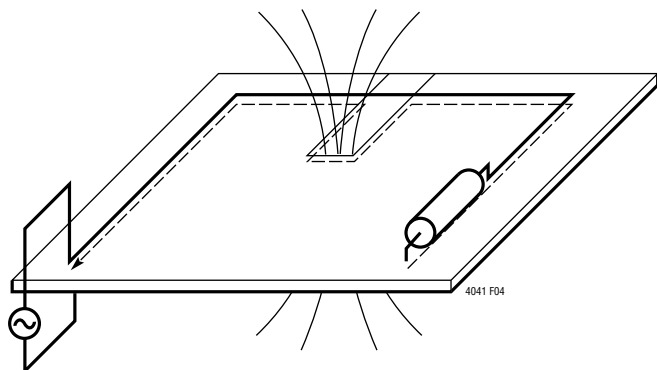

Figure 4. High Frequency Ground Currents Follow Their Incident Path. Slits in the Ground Plane Cause High Voltage and Increased EMI
2. To minimize parasitic inductance, the ground plane should be as close as possible to the top plane of the PC board (Layer 2). High frequency currents in the hot loop tend to flow along a mirror path on the ground plane which is directly beneath the incident path on the top plane of the board as illustrated in Figure 4. If there are slits or cuts or drill-holes in this mirror path on the ground plane due to other traces, the current will be forced to go around the slits. When high frequency currents are not allowed to flow back through their natural least-area path, excessive voltage will build up and radiated emissions will occur. So every effort should be made to keep the hot-loop current path as unbroken as possible.